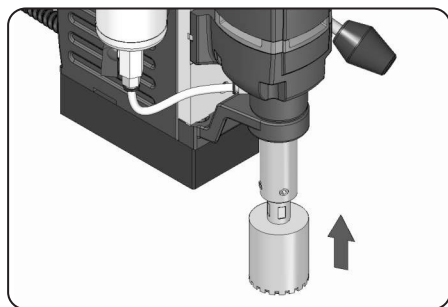

Fig. No. 9
- B. Insert cutter into drill spindle with the two (2) flats of the cutter aligned with grub screws (Fig No. 9 & 10). Make sure the center pin is inserted into the cutter.